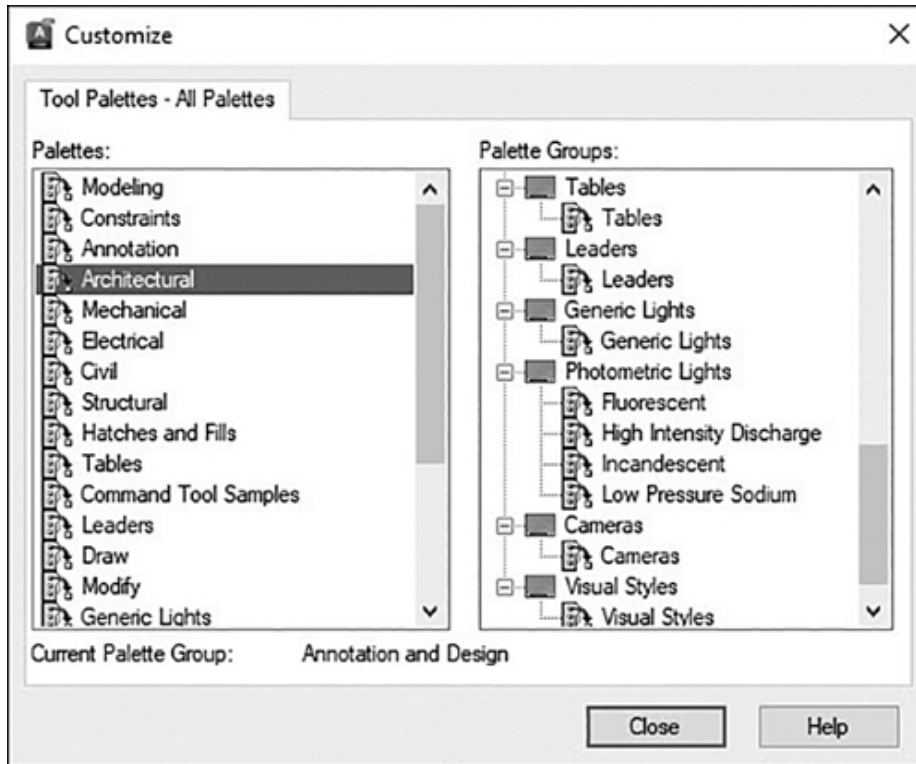

Figure 16-65
- Customize tool palette groups. The **Customize Palettes...** menu item displays the **Customize** dialog box shown in Figure 16-65 so you can do the following: